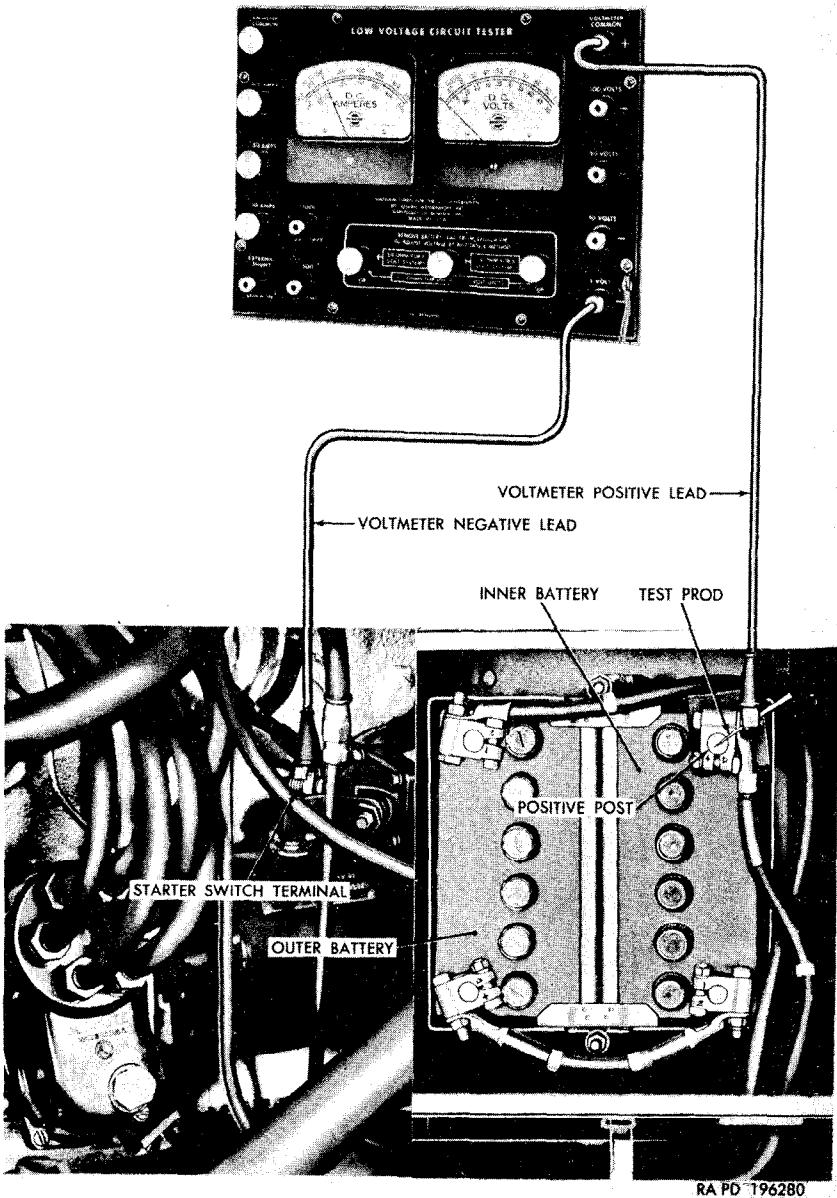

Figure 47. Checking battery-to-starter cable resistance.
- (1) *Flywheel ring gear broken.* Remove the starter (par. 158a) and inspect flywheel ring gear teeth. If teeth are broken or damaged, report to ordnance maintenance personnel.
- (2) *Starter pinion damaged.* Replace starter (par. 158).
d. Check Battery-to-Starter Cable Resistance (fig. 47). Check for excessive resistance (voltage drop) in the battery-to-starter cable to determine cause of malfunction of the starting system. The engine must be at normal operating temperature.
- (1) *Install test prod in battery post.* Drive a test prod into the positive (+) post of the inner battery (par. 90f).
- (2) *Connect voltmeter positive (+) test lead.* Connect the voltmeter positive (+) test lead to the positive (+) terminal of the low voltage circuit tester and attach the clip end of the lead to the test prod.
- (3) *Connect voltmeter negative (-) test lead.* Connect the voltmeter negative (-) test lead to the 1 VOLT terminal of the tester and attach the clip end of the lead to the starter switch terminal.
- (4) *Crank engine and read voltmeter.* Crank the engine with the starter (ignition switch off) and observe the reading on the upper scale of the tester voltmeter. The reading should not exceed 0.2 volt.
- (5) *Clean connections or replace battery-to-starter cable.* If reading exceeds 0.2 volt, check for loose or dirty connections at the starter switch and battery, a corroded battery terminal, or a loose cable in cable terminals. Clean and tighten connections. Replace a defective battery to starter cable (par. 169f and g).
- (6) *Remove testing equipment.* After completing the check, remove the testing equipment and the prod from the battery post.